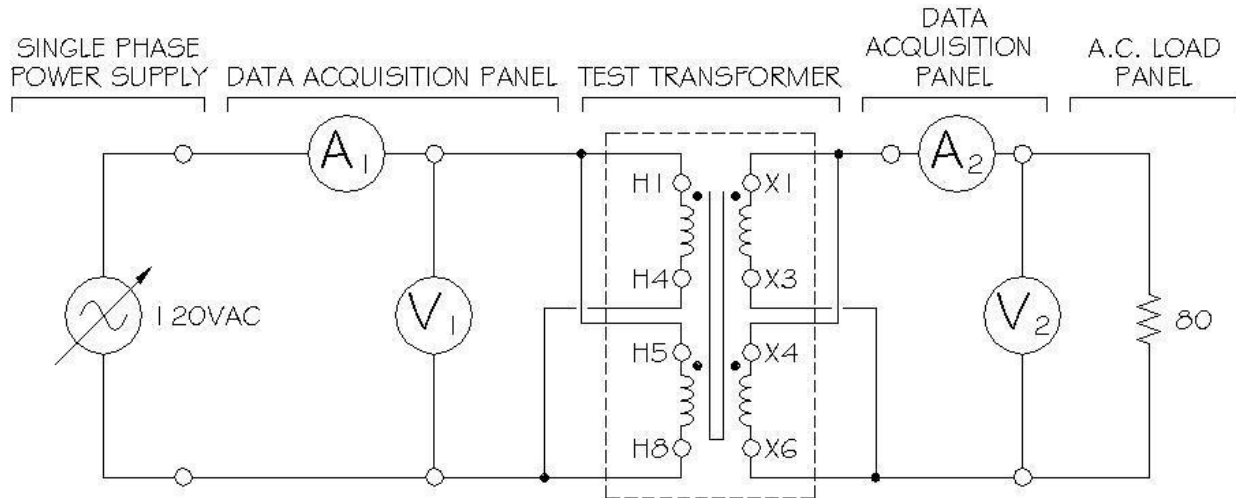

Figure 1 – Experimental Setup for Open Circuit, Short Circuit, and Loaded Tests of the Laboratory Transformer
- Open Circuit Test** – Load the PowerLab program and select Display 3P. Connect the transformer as shown in Figure 1, wiring both the H1-H4 winding and the H5-H8 winding on the primary side, and the X1-X3 and X4-X6 windings on the